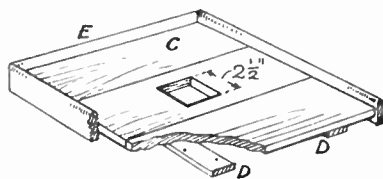

Fig. 4 Details of the table
shown in Fig. 4. Plane the meeting edges of the pieces and clamp them together and nail on the narrow battens (D), consisting of any odd pieces about  $\frac{3}{8}$  in. thick or so to hold all firmly together.